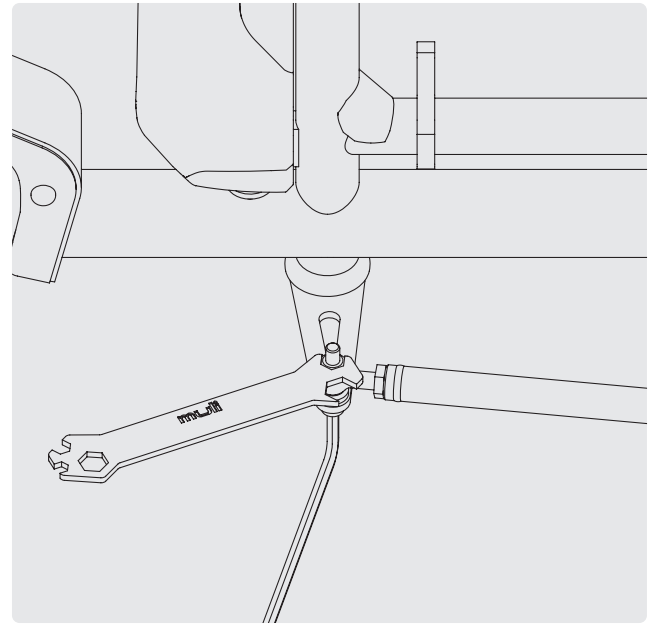

FIG. 11
- 2 Tighten the counter nut with a 6 mm Allen key and a 13 mm open-end spanner until the bearing has no more play and the handlebars can still be easily turned (Fig. 11).